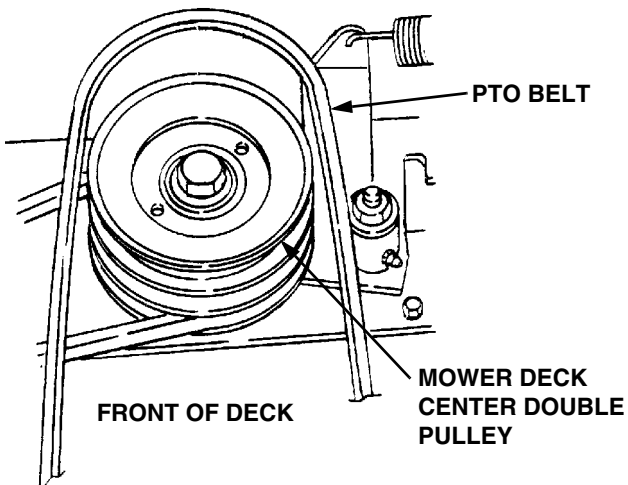

Figure 52
13. Install the rearward end of the PTO belt on the upper pulley of the deck center double-pulley (Refer to Figure 52). Ensure that the narrow side of the belt engages the groove of the upper pulley.